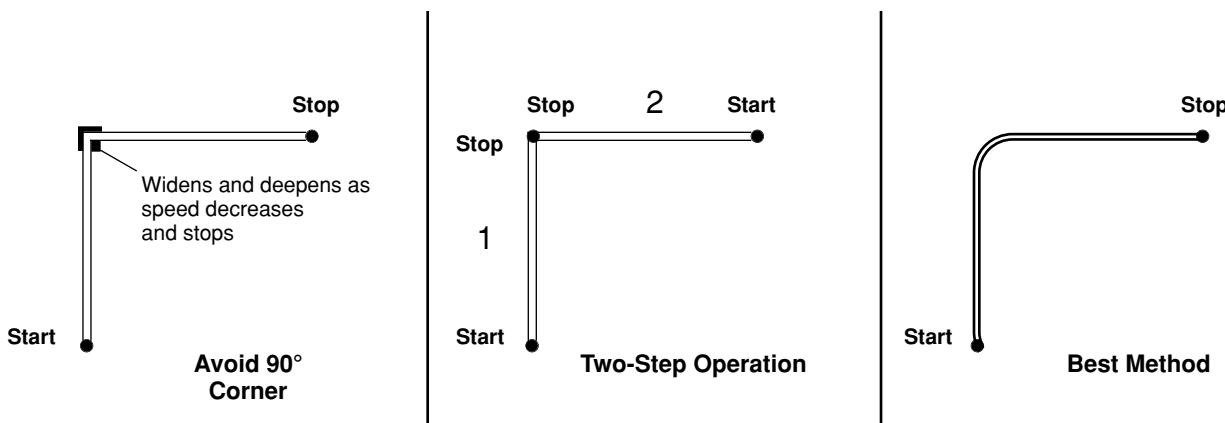

Figure 4-6 Cornering
- **Avoid 90° corners** because the torch comes to a complete stop. If a 90° corner is necessary and the resulting mark is unacceptable, then it may be done as a **two-step operation**. The **best method** is to smooth out the corner, so that the torch does not come to a complete stop in the corner (Fig. 4-6).